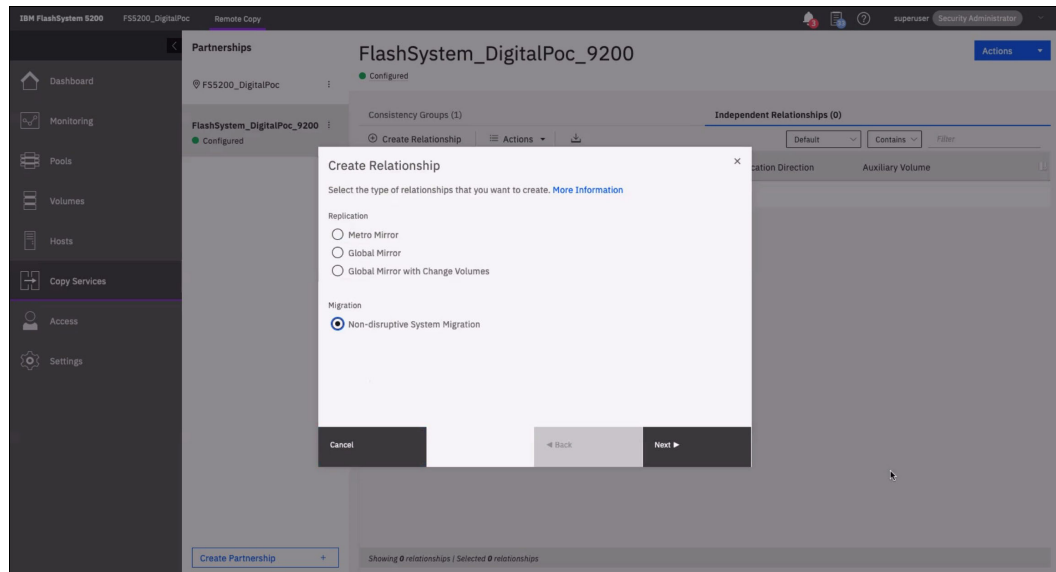

Figure 8-25 Creating non-disruptive system migration relationship
- The Metro Mirror relationship is created manually by using a dedicated **migration** switch parameter through the command-line interface (CLI). This step also can be done through the GUI, as shown in Figure 8-25. Select **Migration** → **Non-disruptive System Migration** while creating the relationship.